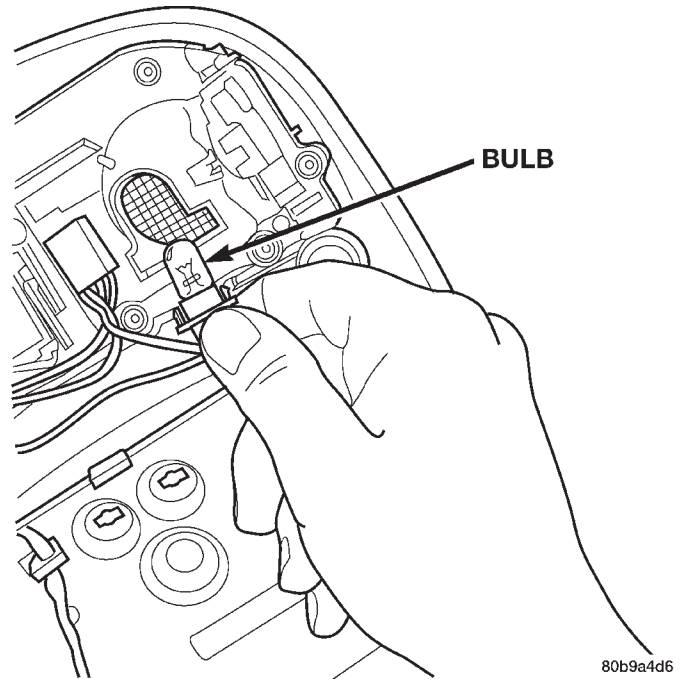

Fig. 7 Overhead Console Reading Lamp Bulb
- (1) Remove the overhead console.
- (2) Rotate the console until the bulb is visible (Fig. 7).
- (3) Grasp the bulb and remove from the socket.